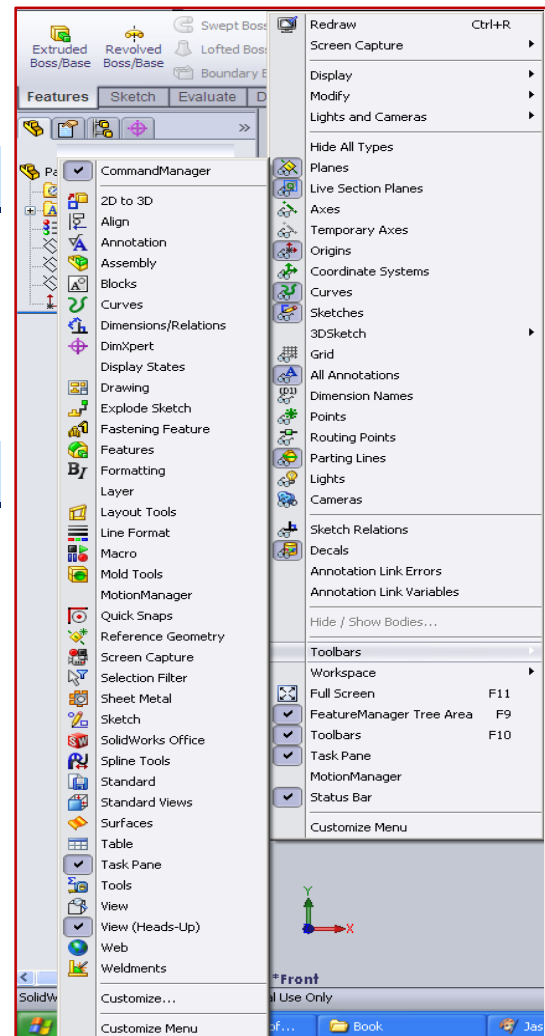

Figure 2.1 – View→Toolbars
Step 4: Click **View→Toolbars** to see all the toolbars that are available. Toolbars that are visible have a check mark. See Figure 2.1.